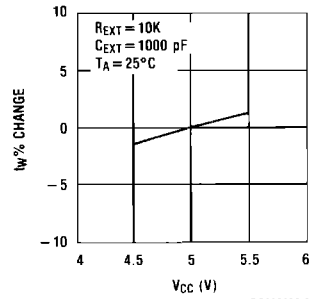

FIGURE 6.
8. Output pulse width variation versus  $V_{CC}$  and temperatures: *Figure 6* depicts the relationship between pulse width variation versus  $V_{CC}$ , and *Figure 7* depicts pulse width variation versus temperatures.